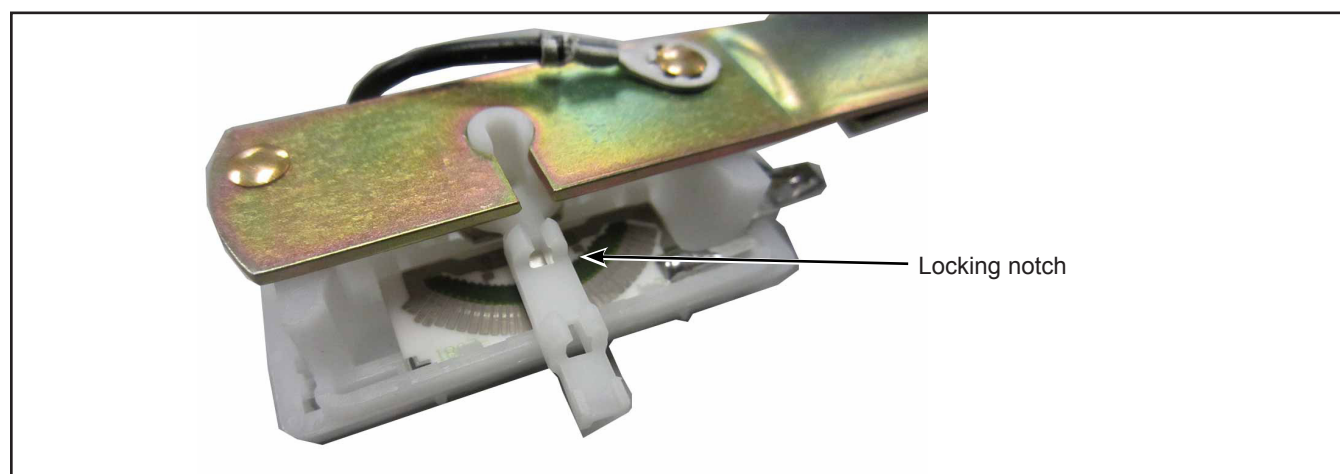

Figure 8 - Float and Fuel Level Gauge Assembly
1.10.5. Affix the arm into the gauge mechanism's locking notches. See Figure 8.